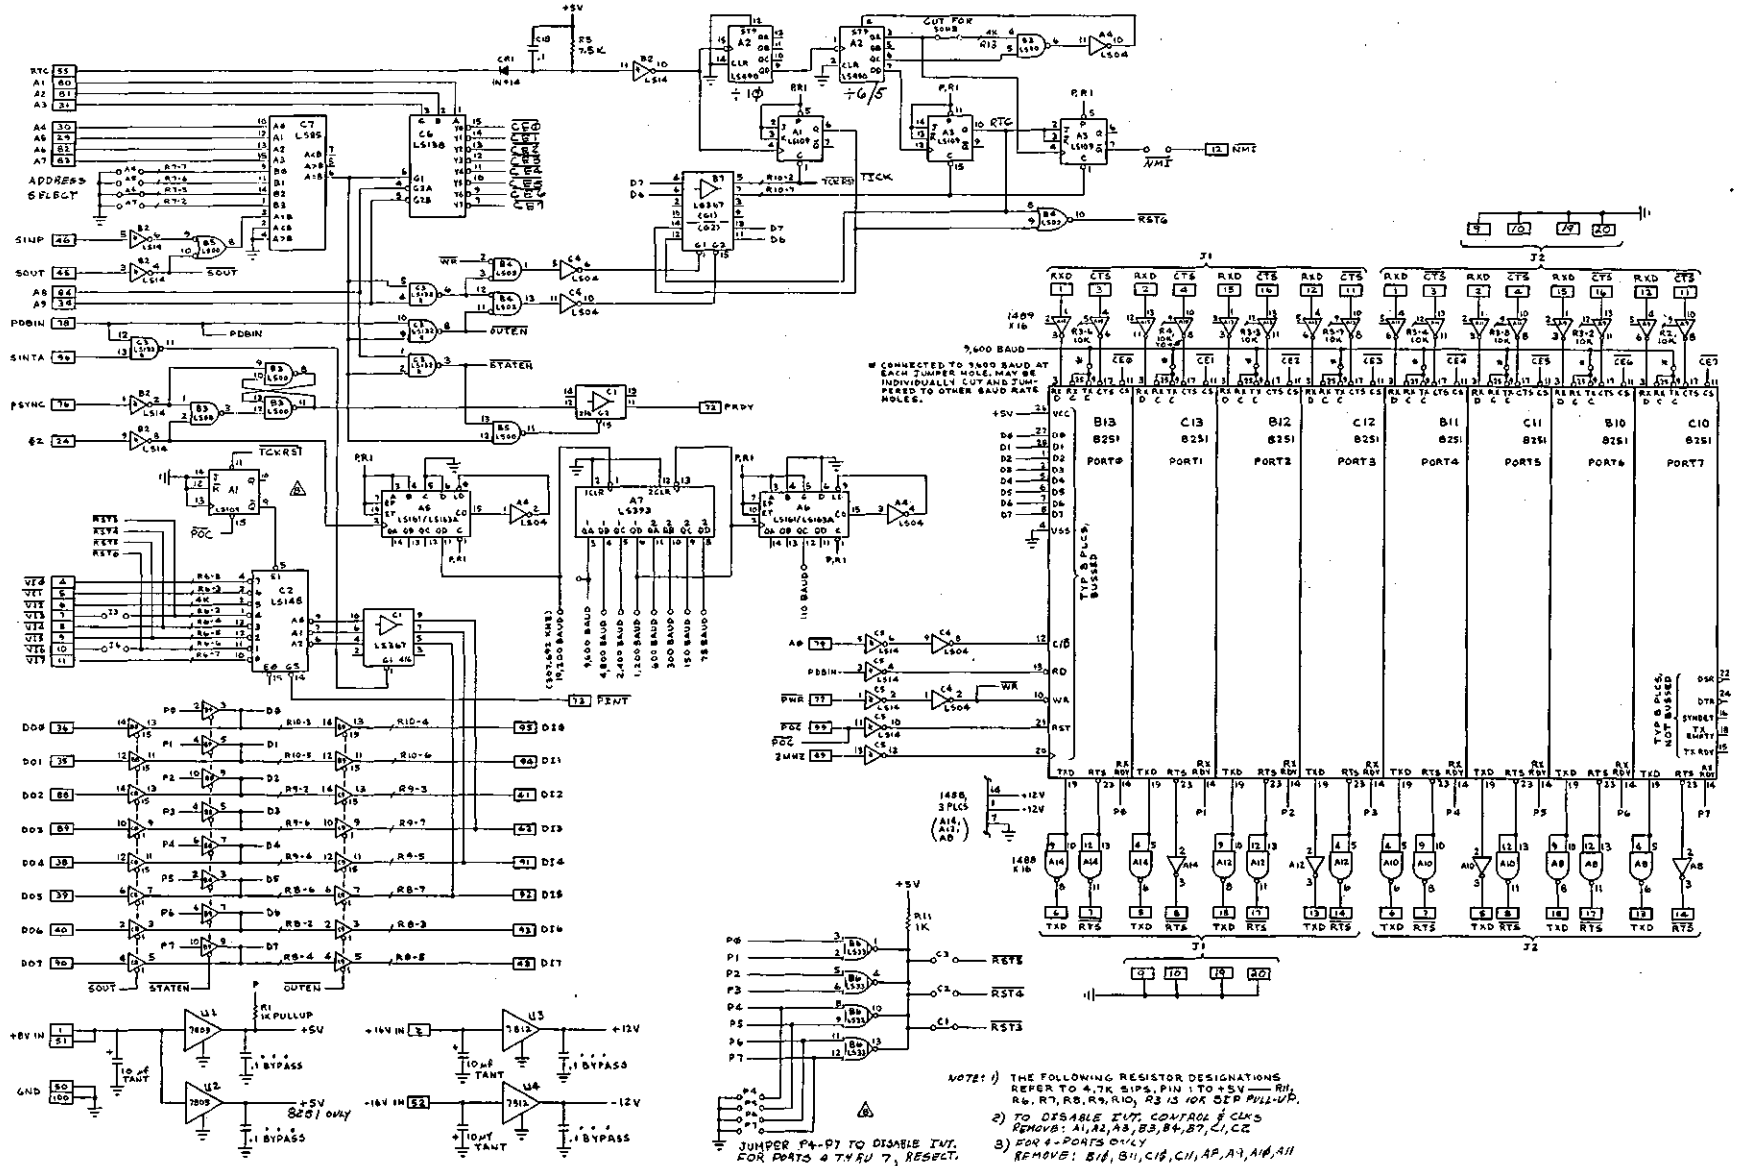

Figure 7-1 — Octoport Schematic
7.01 Figure 7-1 will furnish the user with a schematic diagram of the Octaport. Table 7-1 is the Replaceable Parts List for the Octaport indexed by reference designator appearing on the respective schematic. Enough information is furnished so the maintenance technician should be able to purchase replaceable parts from a local supplier or make a substitution if necessary. Octaport PC Assemblies and I/O cables should be ordered directly from Dynabyte Customer Support Service.